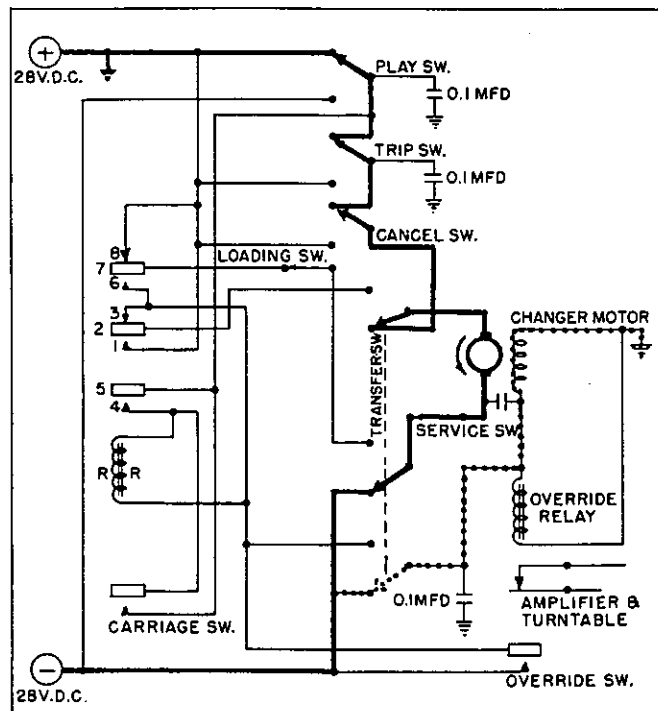

Fig. 64. PHASE 8
h. Phase 8 -- Transfer Switch Function at Full Cycle. (Fig. 64)
As described in "g" all functions of the cycle of operation have been completed under the conditions shown in solid and dotted lines, Figure 64.